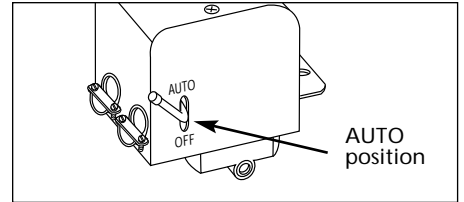

Figure 7
- Turn switch to AUTO position to run unit (Fig. 7).